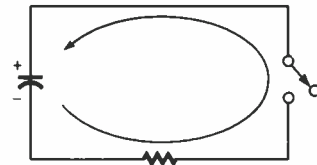

Fig. 6—If a series resistor is added to the discharge path the discharge current flows through the resistor.
9. (discharged) The discharge process, of course, causes electron flow between the two plates through the external short. The current flows only momentarily as the charge is neutralized. Ordinarily, the discharge occurs through a resistor, as shown in Fig. 6, or through some other component or circuit. That slows the discharge process but allows some